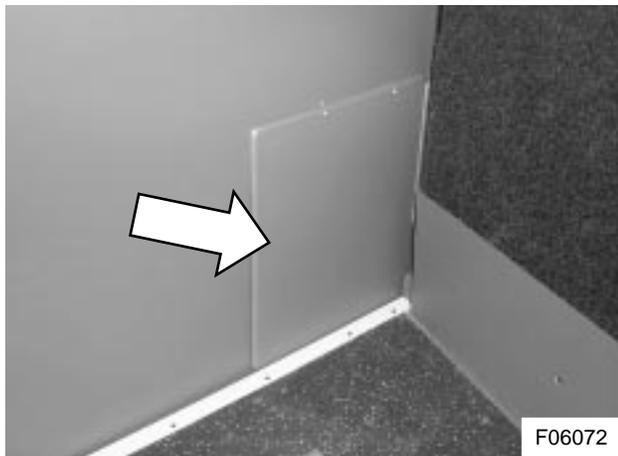

Figure 3: Door lock linkage cover panel
- 3) Undo and remove the screws securing the ABS panel covering the door lock linkage (see Figure 3). Remove and discard the panel.